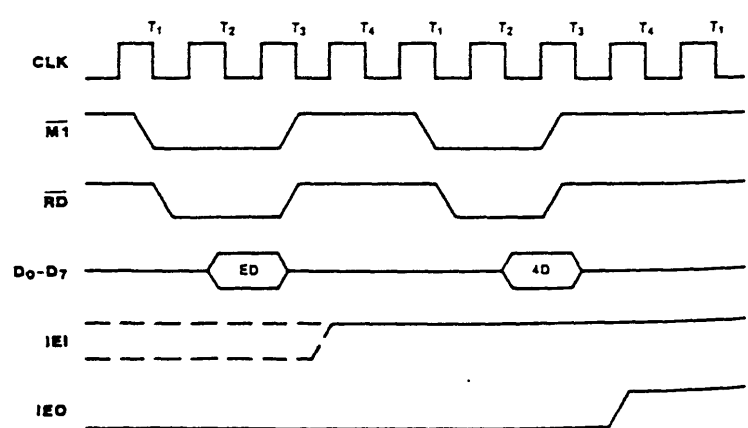

Figure 19. Return From Interrupt
**Return From Interrupt Cycle.** If a Z80 peripheral has no interrupt pending and is not under service, then its  $\overline{IEO} = \overline{IEI}$ . If it has an interrupt under service (i.e., it has already interrupted and received an interrupt acknowledge) then its  $\overline{IEO}$  is always Low, inhibiting lower priority devices from interrupting. If it has an interrupt pending which has not yet been acknowledged,  $\overline{IEO}$  is Low unless an "ED" is decoded as the first byte of a 2-byte opcode (Figure 19). In this case,  $\overline{IEO}$  goes High until the next opcode byte is decoded, whereupon it goes Low again. If the second byte of the opcode was a "4D," then the opcode was an RETI instruction.